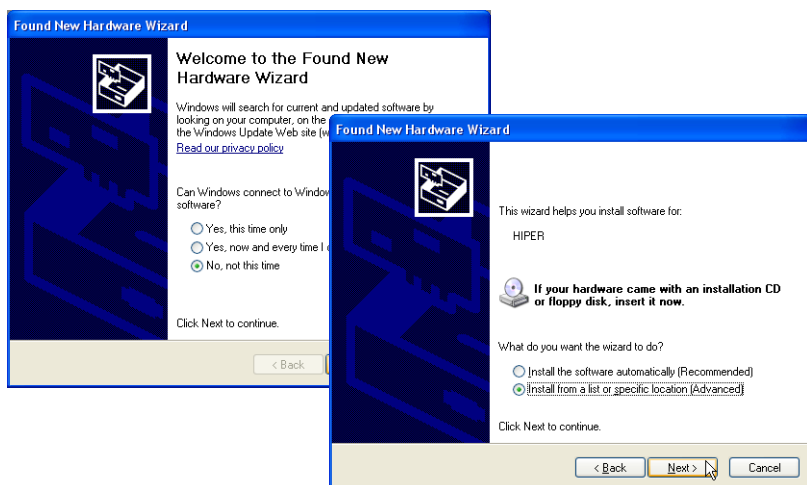

Figure C-14. Windows XP – Found New Hardware Wizard and Select Installation Method
2. Select *Install from a list or specific location (Advanced)* and click **Next** (Figure C-14 on page C-9).